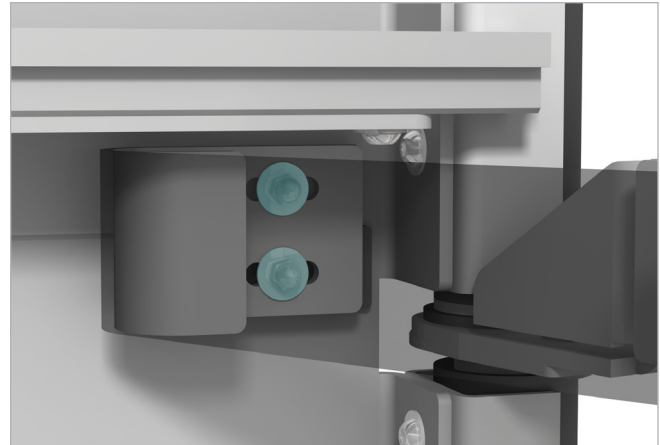

Figure 1 – Nuts and washers behind strap.
3. Once the tether strap tension is satisfactory, use the 7/16 in. wrench to reinstall the nuts and washers. Tighten to a final torque of 75 in-lbs. See **Figure 1** for hardware location.